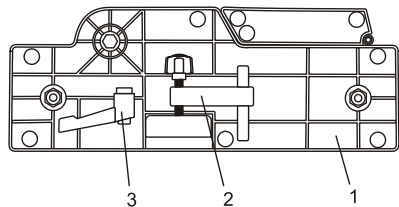

Fig. 10
1. Turn the cutting & miter guide (1) up side down and remove the hold-down clamp assembly (2) and the miter clamping lever (3) (Fig. 10).
1. Assemble the cutting & miter guide as outlined in Fig. 10, 11 & 12.